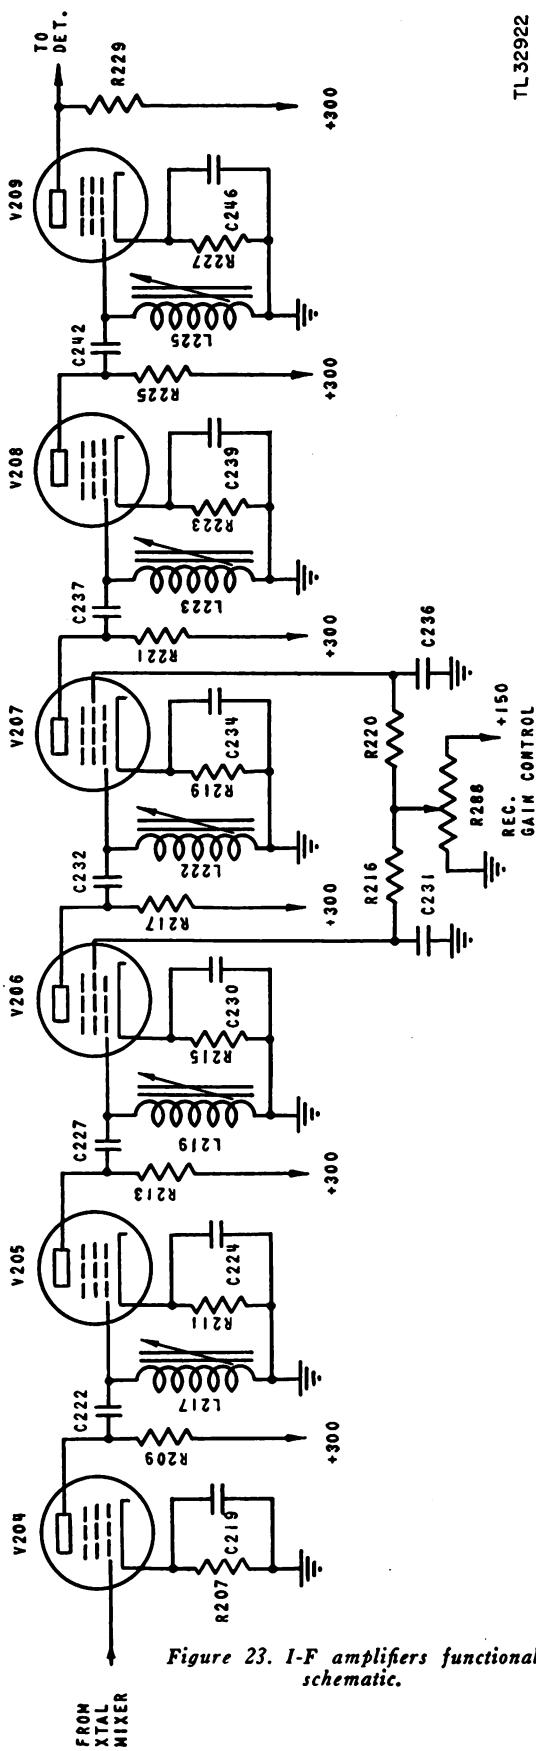

Figure 23. I-F amplifiers functional schematic.
**16. I-F AMPLIFIERS.** The i-f channel consists of six amplifier tubes V204 to V209, as shown in the simplified schematic diagram (figure 23). The signal voltage from the crystal mixer is impressed on the grid of the first amplifier tube V204. This signal voltage is amplified by V204 and appears on the plate of this tube, across the plate load resistor R209. This amplified signal voltage is coupled to the grid of the second stage, V205 by capacitor C222. Coil L217 is tuned to the i-f, at 30 megacycles. Resistor R207 provides cathode bias for the first i-f tube. Capacitor C219, by-passing the cathode resistor, prevents degeneration. The five succeeding i-f amplifiers function in the same manner. The RECEIVER GAIN control, potentiometer R288, varies the positive voltage applied to the screen grids of the 3rd and 4th i-f stages, tubes V206 and V207. Varying the screen voltage from 0 to 150 volts in this manner controls the gain of these tubes, and therefore the amplitude of the signals to be fed to the cathode-ray tubes in the indicator.